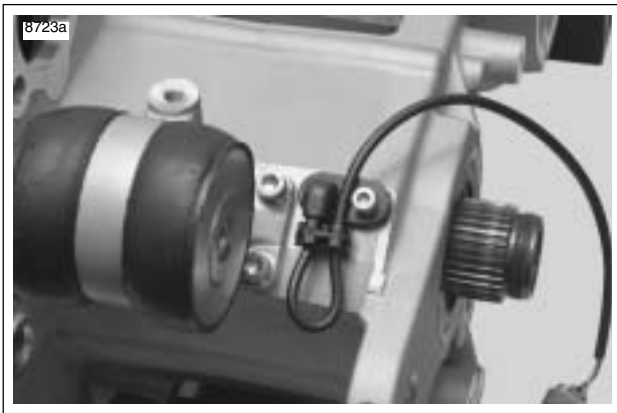

Figure 3-31. Rear Isolator and Mounting Hardware
38. See Figure 3-31. If the crankcases are being separated it will be necessary to remove rear isolator assembly by removing the forward two fasteners first and then the two rear fasteners (re-install with **new** fasteners).